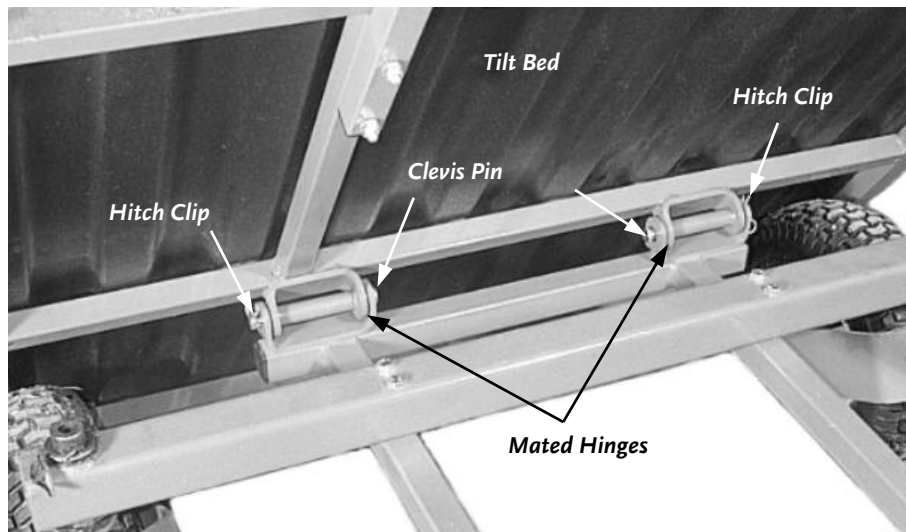

Figure 3
2. Align the left Hinge on the Tilt Bed with the left Hinge on the Trailer Frame (**Figure 3**).
3. Insert a Clevis Pin through the mated Hinges and secure with a Hitch Clip (**Figure 3**).